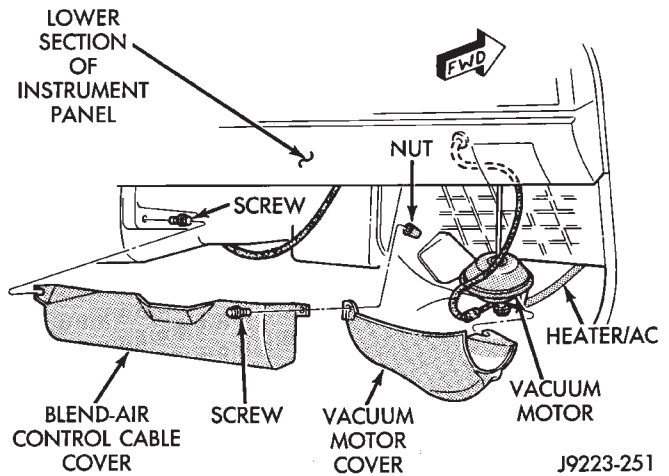

Fig. 23 Blend-Air and Vacuum Motor Covers
(4) Remove the steering column. Refer to the removal procedure in Group 19.
(5) Remove the screws and remove the control cable and vacuum motor covers from the cowl side and dash panel (Fig. 23).